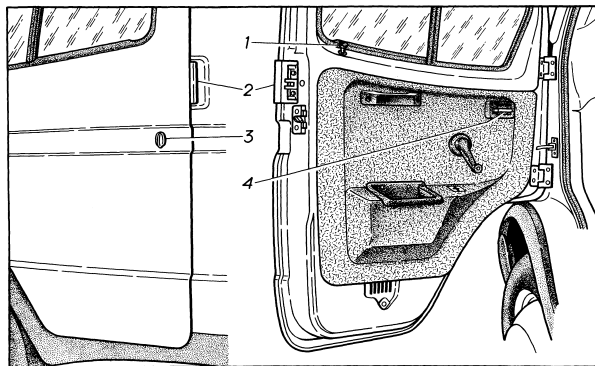

Fig. 5.1. Cab Doors
**Doors.** To open the door from outside, pull handle 2 (Fig. 5.1). The doors are equipped with locks that can be locked from outside with key inserted in lock release 3.